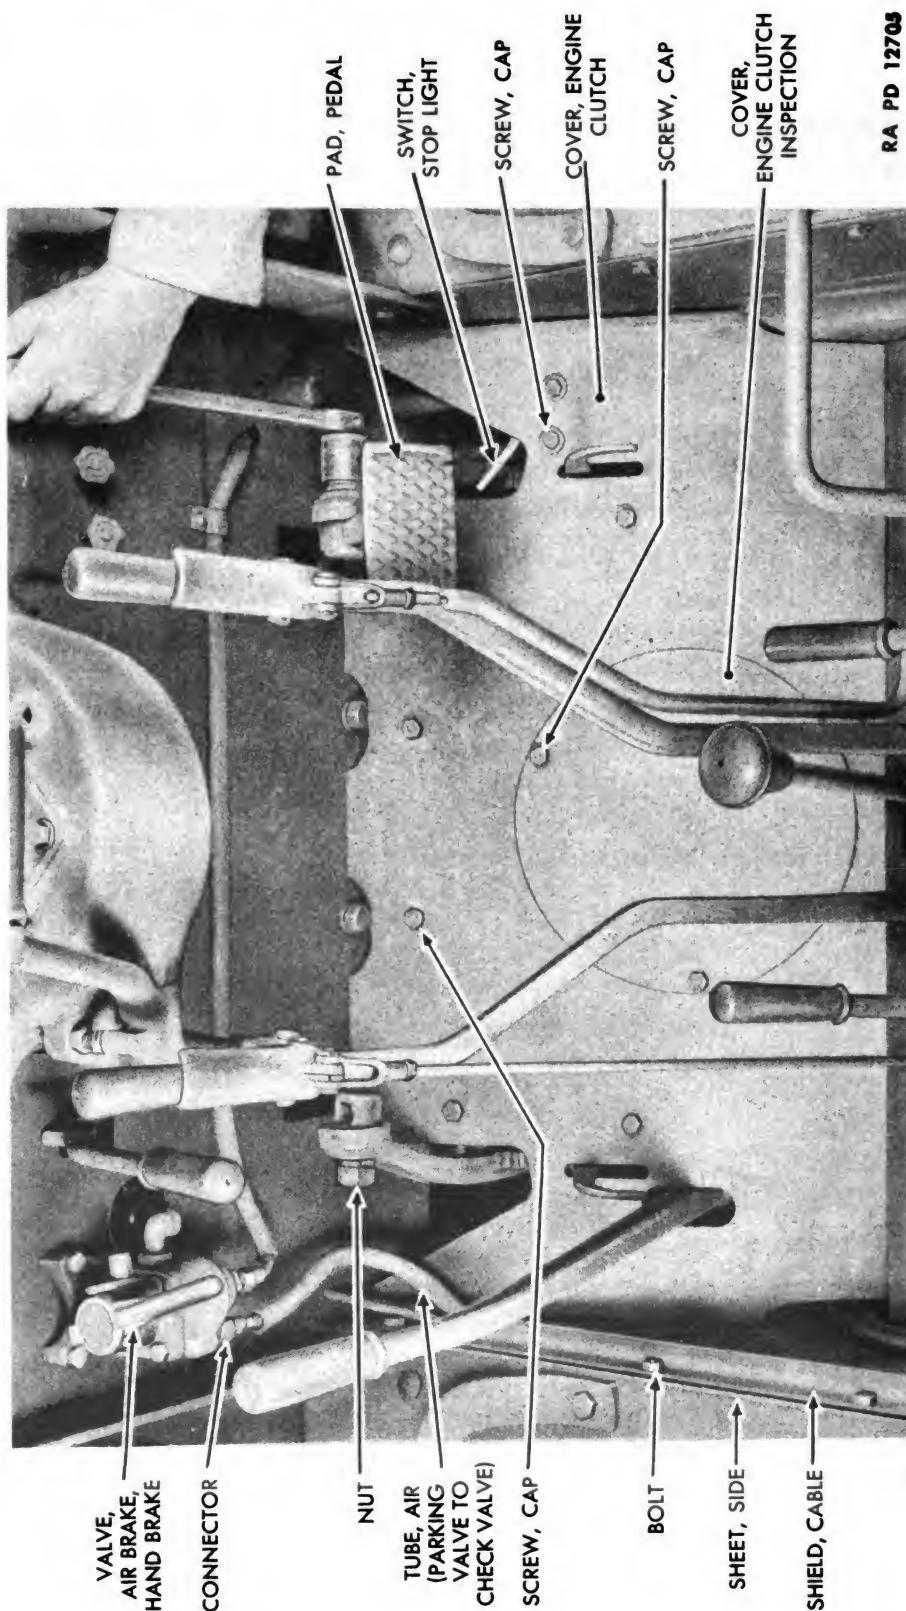

Figure 11 – Engine Clutch Cover Removal
d. **Backplate.** Remove engine clutch inspection cover (fig. 11) and check for looseness of cap screws which hold backplate to flywheel (fig. 15).
(3) REMOVE PEDAL PADS (fig. 11).
(4) REMOVE CAP SCREWS FROM ENGINE CLUTCH COVER (fig. 11).
(5) REMOVE AIR TUBE AND CABLE SHIELD FROM LEFT FENDER SIDE SHEET (fig. 11).
(6) DISCONNECT AIR TUBE (PARKING VALVE TO CHECK VALVE) FROM HAND BRAKE VALVE (fig. 11).